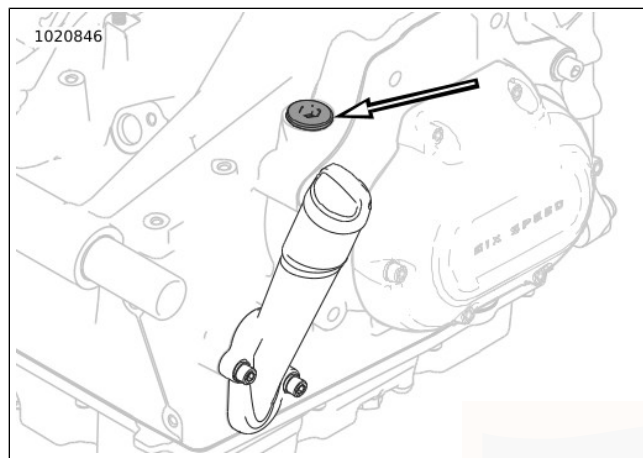

Figure 55. Transmission Filler Plug/Dipstick Location
3. See Figure 55. Remove transmission filler plug/dipstick. Wipe dipstick clean.
1. See Figure 55. Remove transmission filler plug/dipstick.